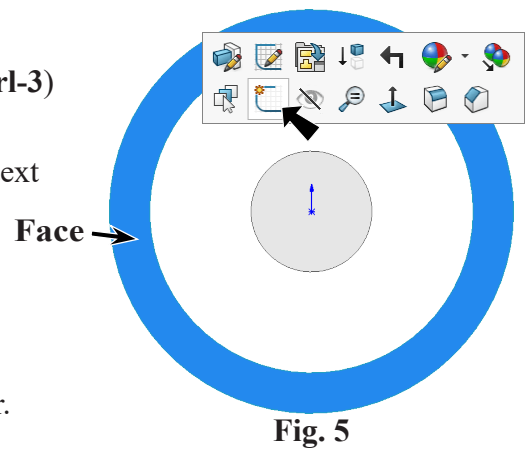

Fig. 5
Step 2. Click a **rear side** and click **Sketch**  on the context toolbar, **Fig. 5**.